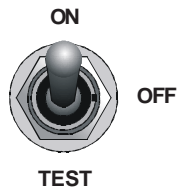

Fig. 3-42. AP Master Switch in ON Position
Set the Autopilot (AP) Master Switch to the ON position, as shown in Fig. 3-42. The position of the FD Master Switch does not matter. The FD annunciation will appear as shown in Fig. 3-43, to acknowledge that the FD is powered-up. Engage a roll mode (HDG, NAV, NAV APR, REV, REV APR) and a pitch mode (ALT HOLD, VS, GS). The autopilot will steer the aircraft toward the Steering Command Bars, until the ARS is tucked into them. The FD provides a visual indication of how accurately the autopilot is tracking its own roll and pitch commands. A typical view of the FD with the FD/AP mode engaged is shown in Fig. 3-44.